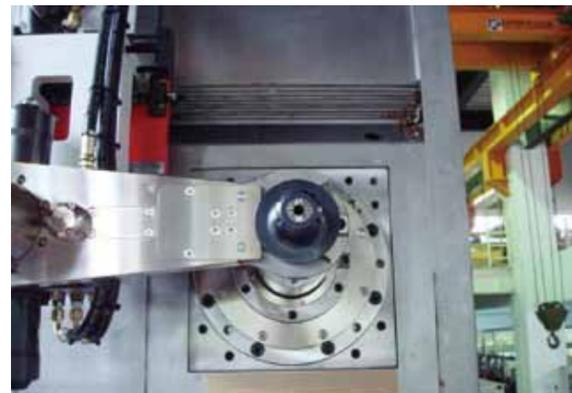

Fig. 11
16. After the Vee position matches, move ARM to tool change position. This is to ensure toolholder alignment is correct. Shown as Fig 11